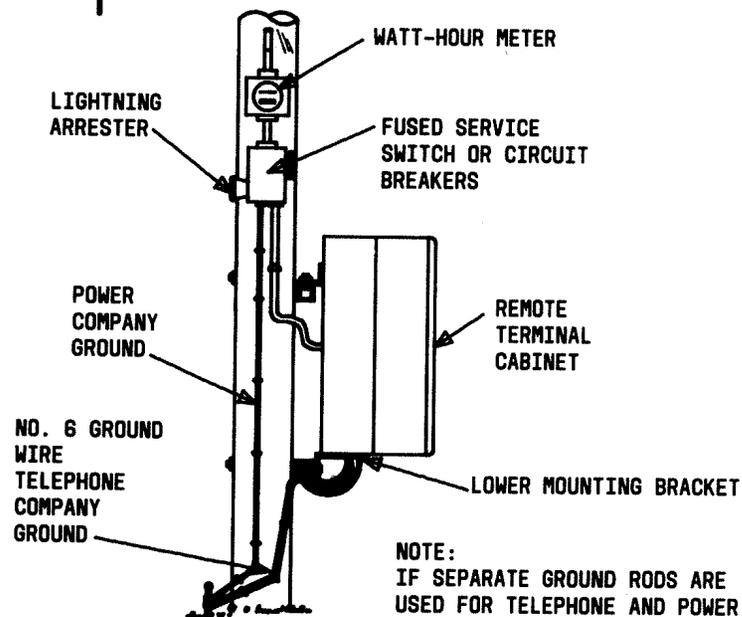

FIG. 3
- [4] Outside of RT cabinet, locate where ground wire connects to D ground rod or power company ground rod. See FIG. 3 for example of pole-mounted RT cabinet